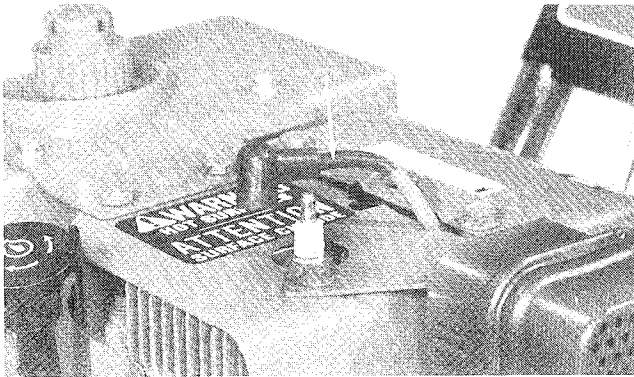

Figure 22
To prevent accidental starting of the engine while performing maintenance, rotate ignition key to off and remove it from the switch. Next, pull wire off spark plug (Fig. 22) and make sure wire does not accidentally touch the plug.
1. Pull wire off spark plug (Fig. 22) and make sure it does not contact the plug accidentally.